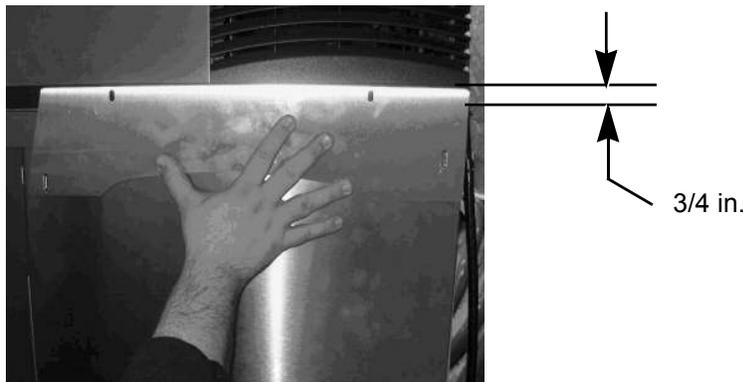

Figure 16.
3. Position the plate as shown in Figure 16. With the straight edge towards the rear of the unit and the top of the plate is about $\frac{3}{4}$ in. above the adapter lid.